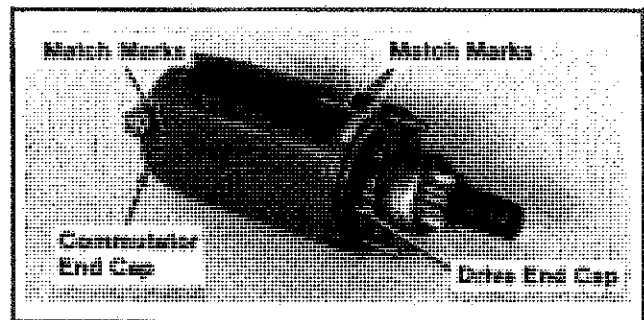

Figure 8-19. Starter Assembly Match Marks.
2. Install the thrust washer and drive end cap. Make sure the match marks on end cap and frame are aligned. Refer to Figure 8-19.
5. Make sure the match marks on end cap and frame are aligned. Refer to Figure 8-19. Install the thru bolts and tighten securely.